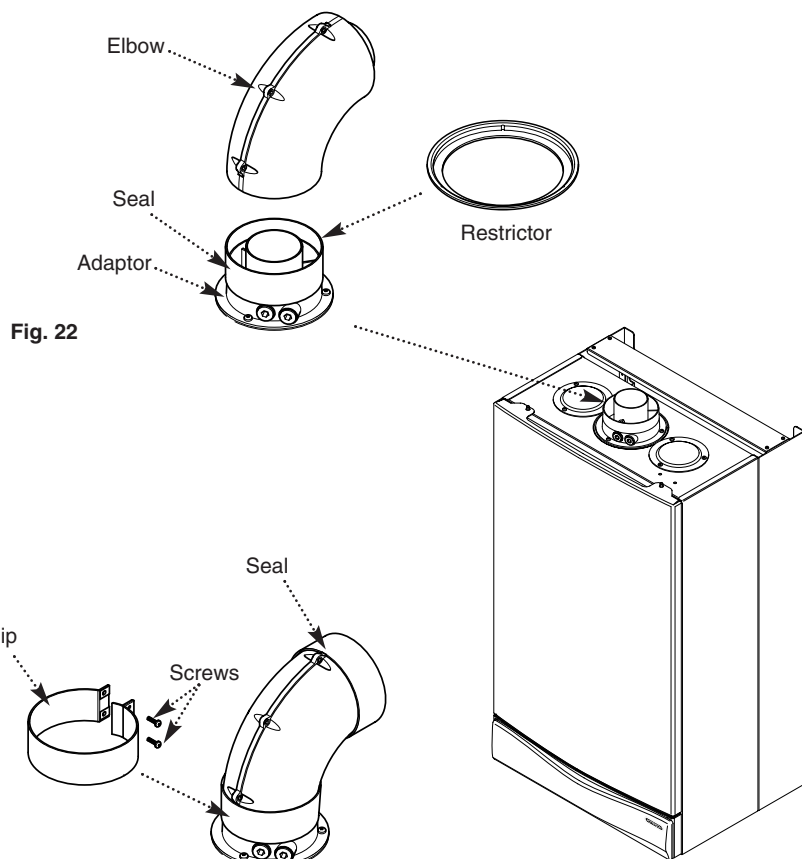

Fig. 22
IMPORTANT: If the equivalent flue length is greater than 1.5m the restrictor **MUST** be removed from the adaptor (Fig. 22).
8. Take one of the rubber seals and position it on the boiler flue adaptor. Engage the flue elbow on the adaptor and pull the sleeve up so that it equally covers the joint (Fig. 22).